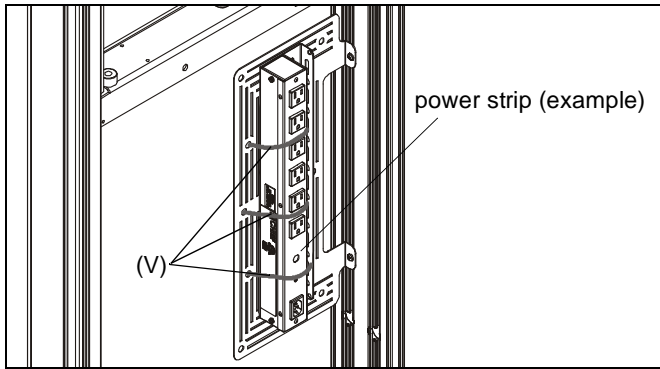

Figure 4
**WARNING:** Exceeding the weight capacity can result in serious personal injury or damage to equipment! It is the installer's responsibility to make sure the combined weight of all accessories and components installed to the component bracket (G) does not exceed 10 lbs (4.54 kg). Exceeding the weight capacity may result in damage to the equipment or components!
5. Install components to component bracket as desired using cable ties (V) or screws. (See Figure 4)